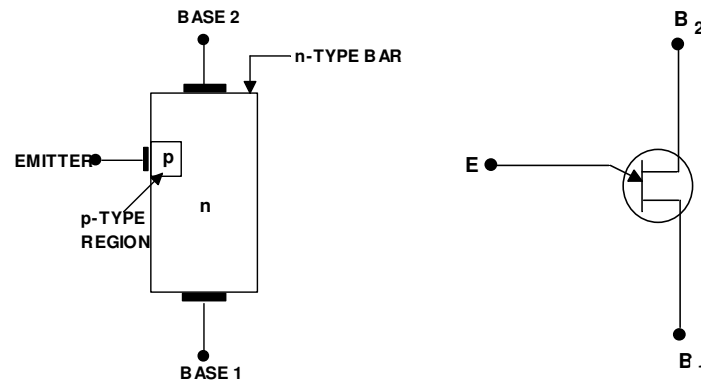

Fig. 45.1
**Q.45.ii) UJT:** A uni-junction transistor (UJT) is a three terminal semiconductor device having two doped regions. In the three terminals, it has emitter (E) and two bases ( $B_1$  and  $B_2$ ). This device has only one pn junction, therefore, naming it a 'transistor' is really misnomer. However, from the outer look (packages), it resembles to a bipolar transistor and hence the name uni-junction transistor. This device has a unique characteristic that when it is triggered, the emitter current increases regeneratively until it is limited by the emitter power supply.
**Construction:** The Structure and symbol of UJT are shown in fig.45.1. UJT consists of an n-type silicon bar which is lightly doped. Two ends connections are taken from the bar called base-one ( $B_1$ ) and base-two ( $B_2$ ). A heavily doped p-type region is diffused to n-type bar nearer to  $B_2$ .